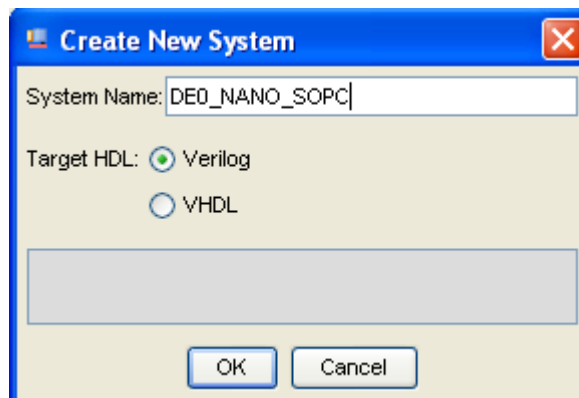
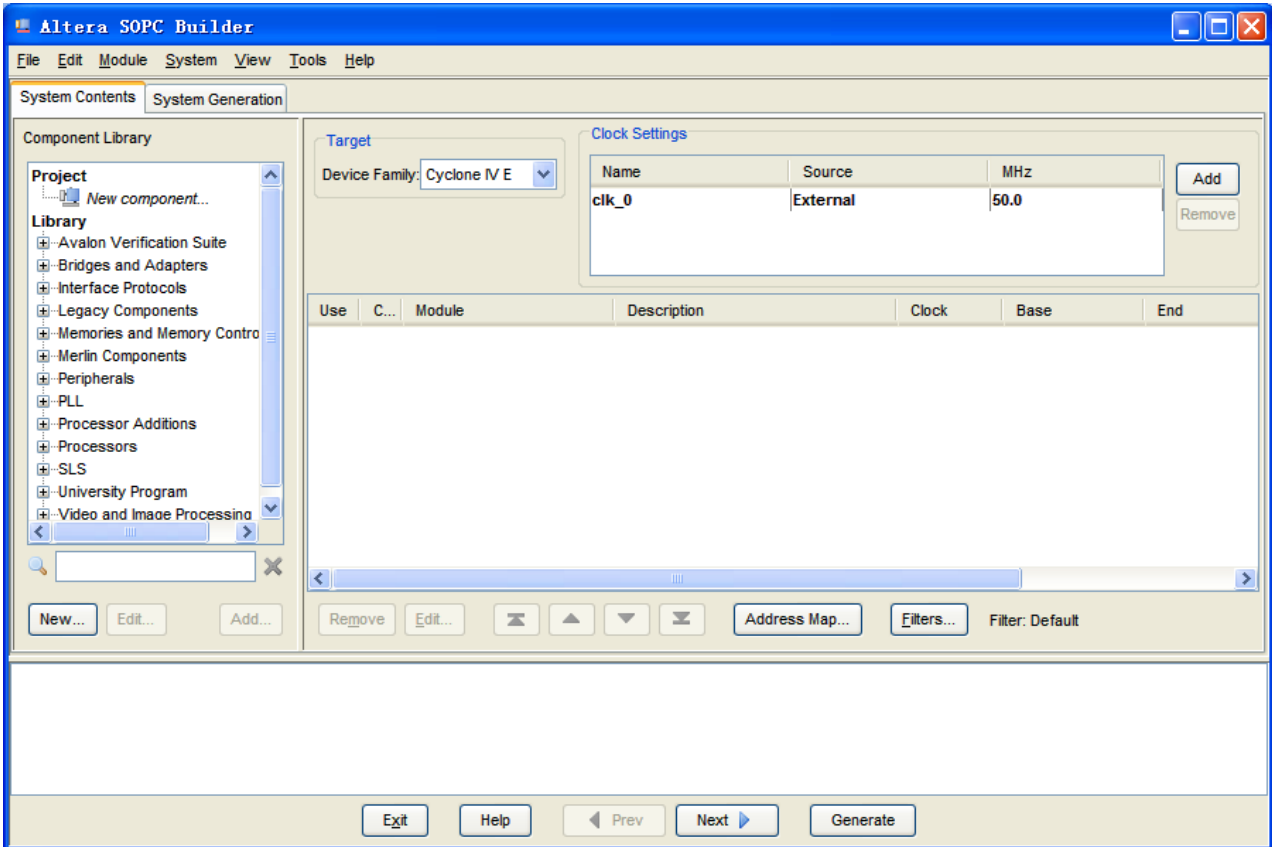

Figure 7-11 Create New System [1]
Figure 7-12 Create New System[2]
6. Rename **System Name** as shown in Figure 7-11. Click **OK** and you will see a window as shown in Figure 7-12.